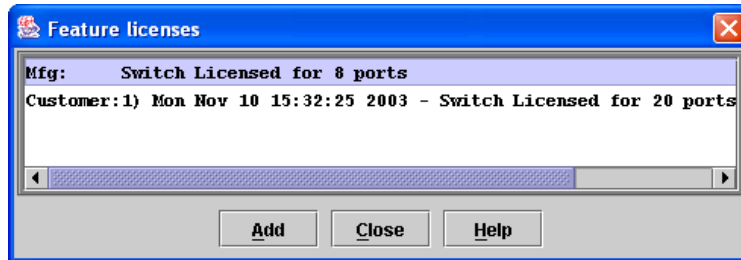

Figure 4-17. Features License Key Dialog
4. Open the Switch Menu and select **Features** to open the Feature Licenses dialog shown in Figure 4-17.